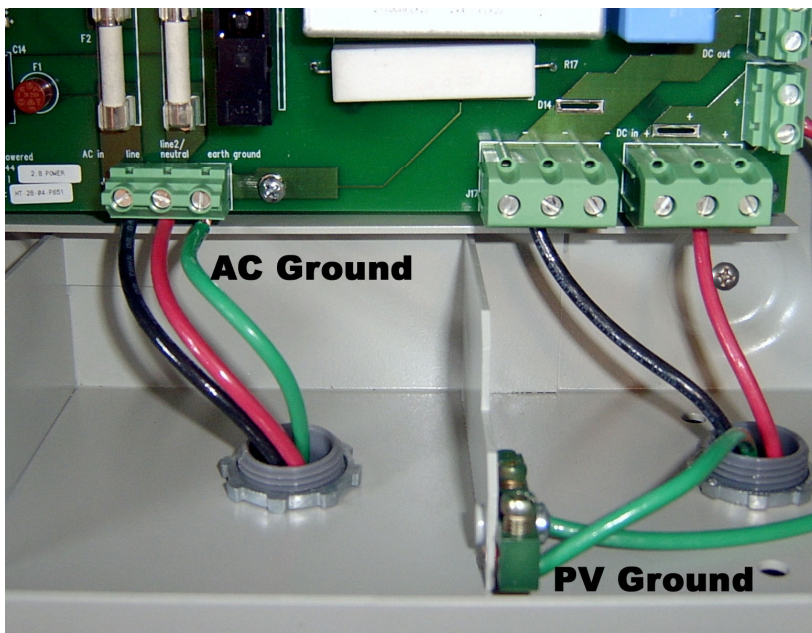

Figure 12: AC and PV Grounding
- ◆ A single point ground connection is located in the lower right hand side of the StarInverter cabinet. The PV panel grounding wire is terminated there. The AC ground connection is terminated next to the Line and Line 2/Neutral connections on the circuit board. The PV ground is bolted to the cabinet with a 1/4-20 bolt. (Refer to Figure 12.)